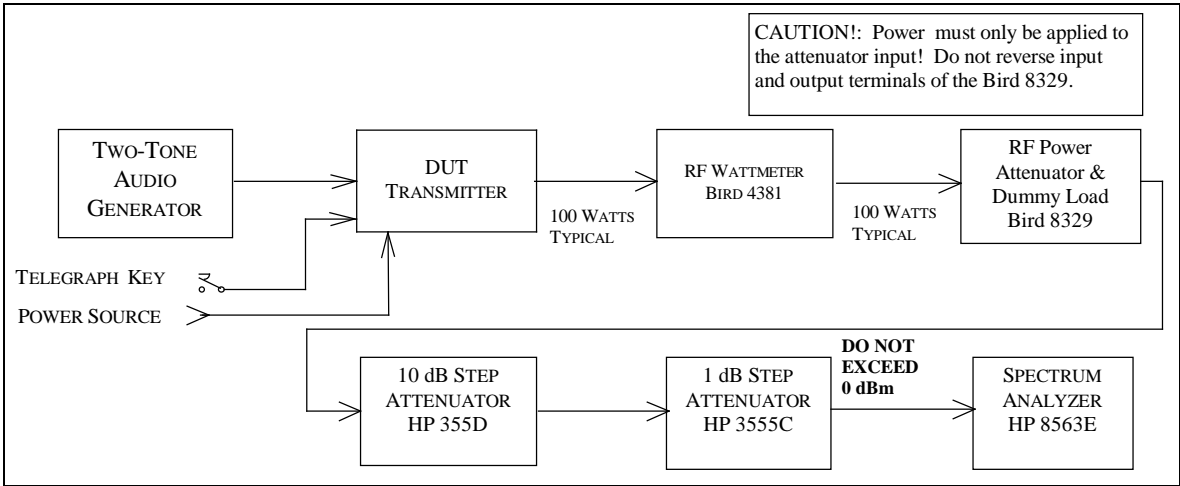

Fig. 4-5 — Two-Tone Transmit IMD Test Hook-up
4.5.2 Test hook-up (See Fig. 4-5)